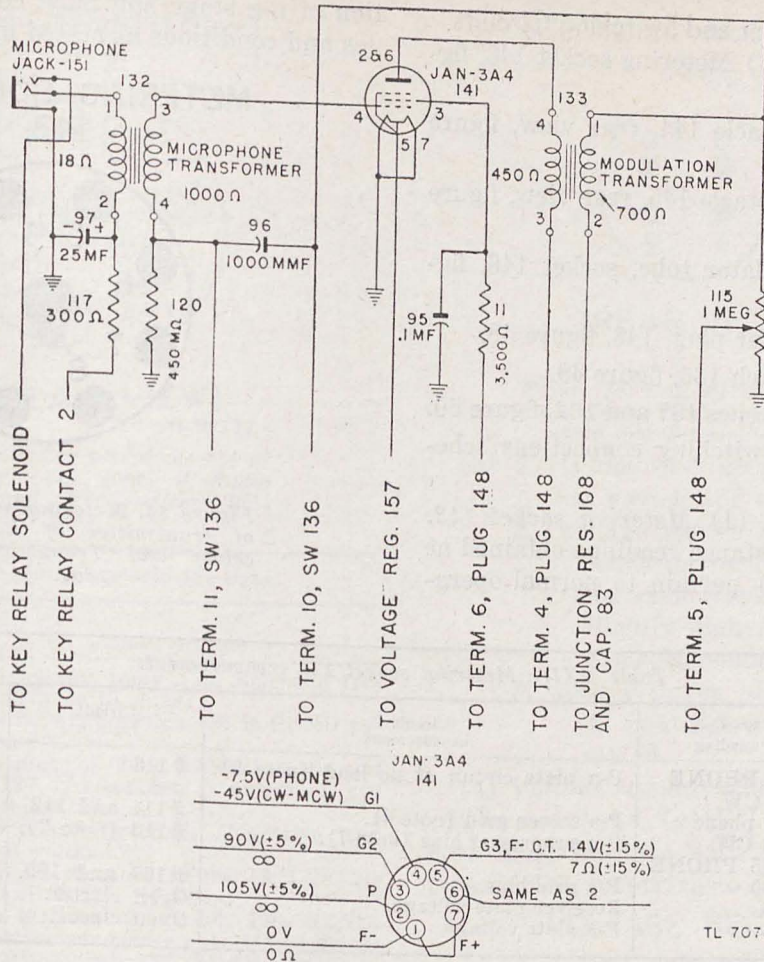

Figure 43. Modulator stage schematic of transmitter of Radio Receiver and Transmitter BC-1306.
a. STAGE DATA. (1) The modulator stage schematic, figure 43.
(2) Parts identification illustrations.
(3) Voltage and resistance values of socket 141, stage schematic, figure 43.
(4) Parts data, table XXII.
(2) *Tube socket voltage and resistance check.* Check the voltages and resistances from the socket terminals to ground. Never check for resistance with power on. All voltages and resistances must be normal as indicated on figure 43. Localize any trouble to a particular portion of the stage, making a check of each individual component associated with that portion of the stage.
(3) *Point-to-point continuity check.* If the preceding steps fail to indicate the cause of trouble, perform a point-to-point continuity check, referring to the stage schematic, figure 43, and to the parts identification illustrations, figures 6, 7, 8, and 55. Check the voltage drop across the resistors, transformers, and other components. Check for faulty soldered joints, broken connections, short circuits, and grounds.
Table XXII. Parts data, modulator stage (transmitter) (fig. 43)